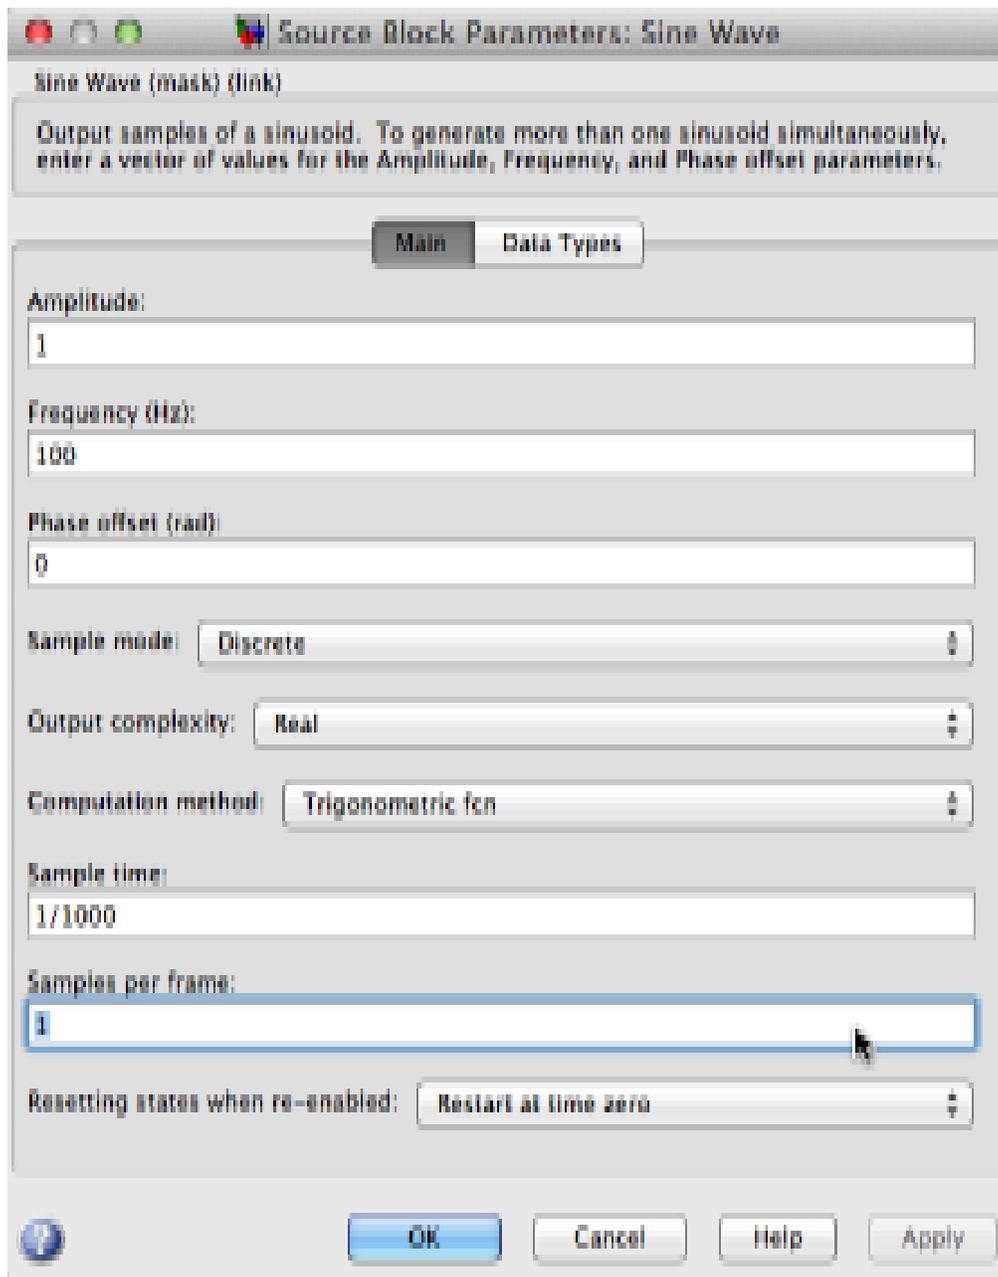

Figure 3. Sine Wave Source Block Parameter Window
7. Double click on the Sine Wave block and the parameters window shown in figure 3 will appear. Among the default parameters the sine wave frequency is set to 100Hz and the sample time to 1/1000 seconds or 1 ms. A 100Hz sine wave has a period of 10 ms. Thus, the generated signal will contain 10 samples per cycle of the sine wave.